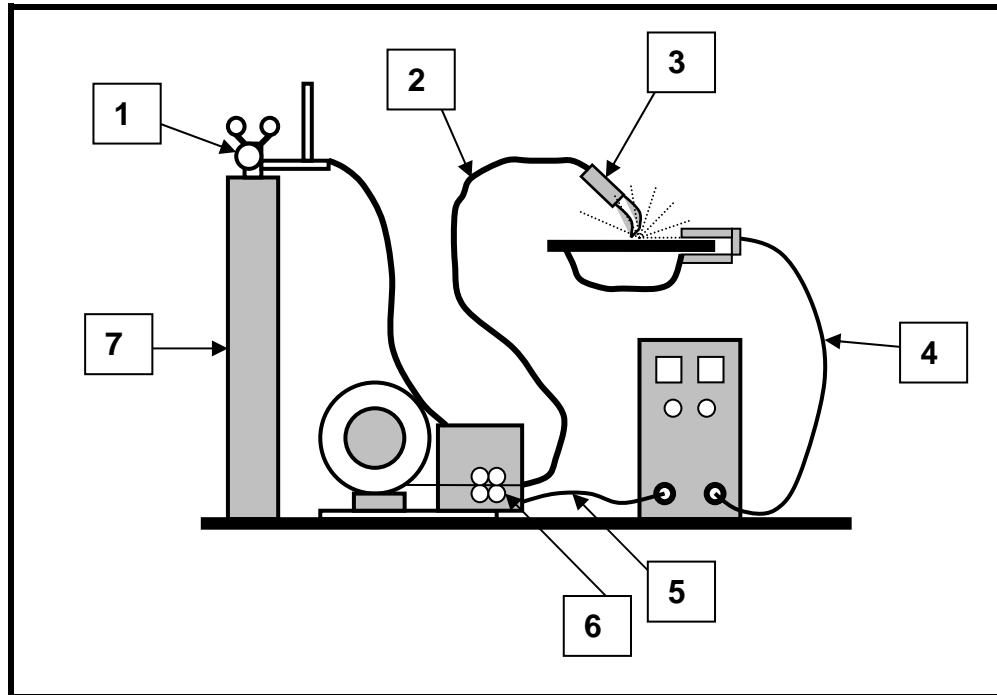

FIGURE 3.1
3.1 Kobus uses the MAGS/MIGS welding machine to weld a stainless steel pot as shown in FIGURE 3.1. Label (from 1 to 7) the figure.